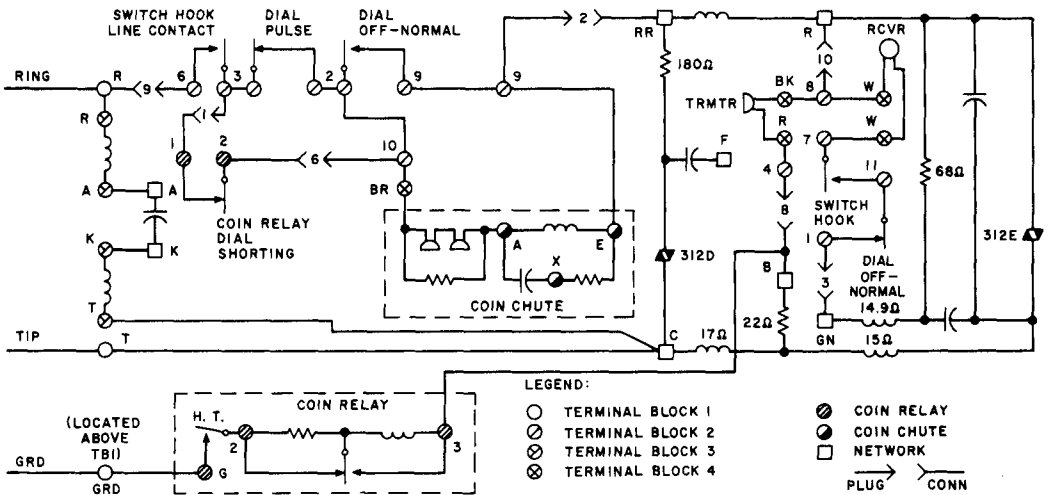

Fig. 8 — 235G Coin Telephone
- Fig. 8 — 235G Coin Telephone